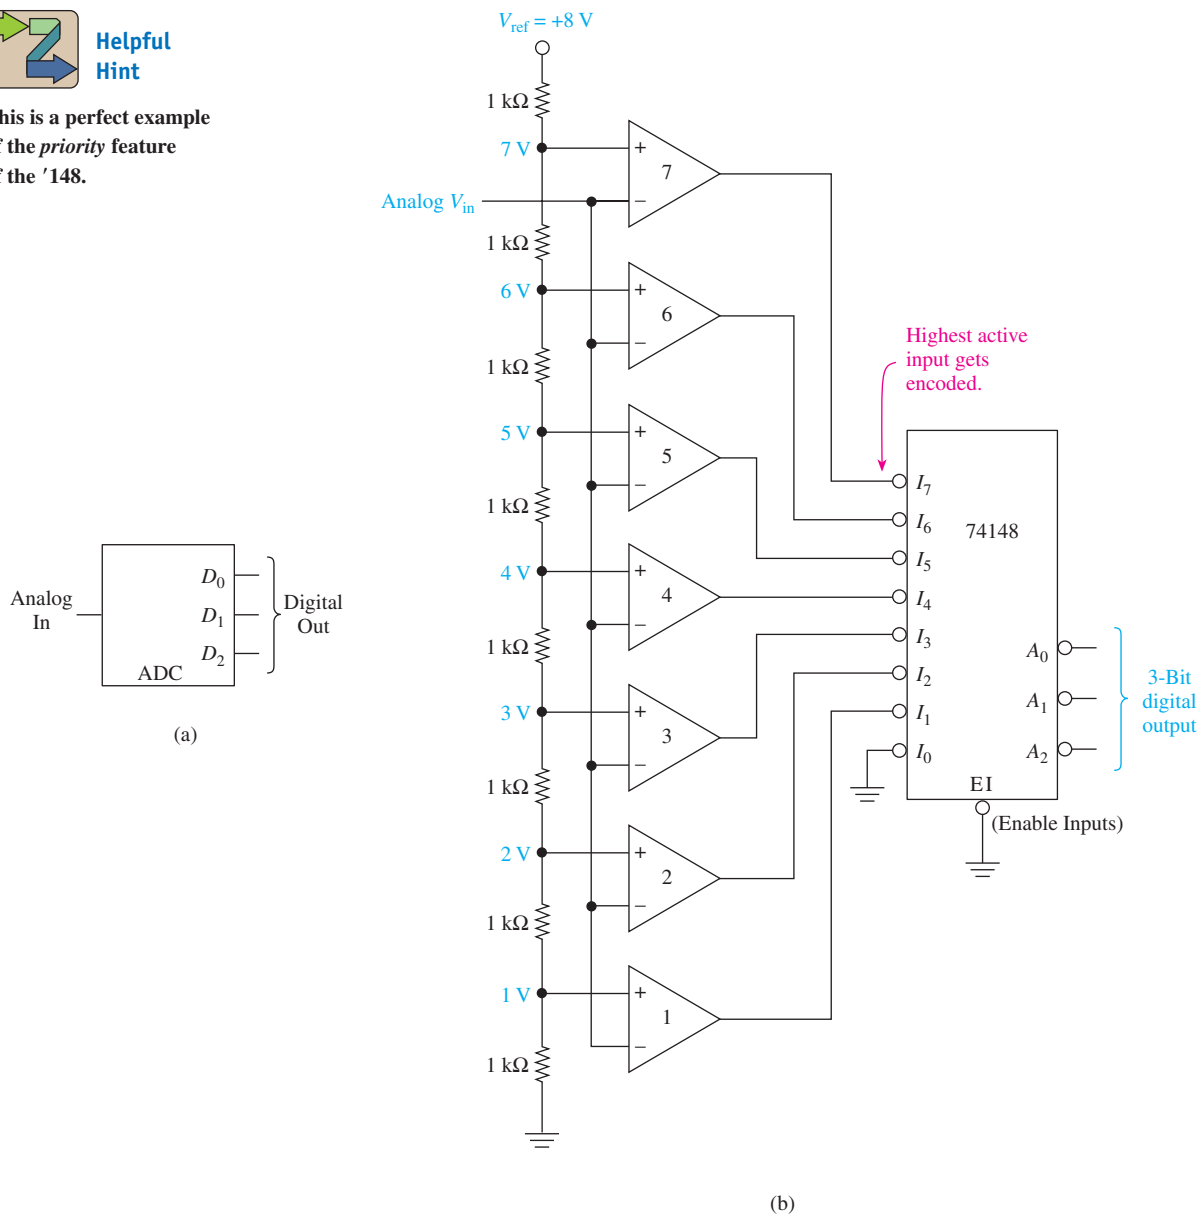

Figure 11 Three-bit parallel-encoded ADC: (a) block diagram and (b) circuit diagram.
The process of taking an analog voltage and converting it to a digital signal can be done in several ways. One simple way that is easy to visualize is by means of parallel encoding (also known as *simultaneous*, *multiple comparator*, or *flash* converting). In this method, several comparators are set up, each at a different voltage reference level with their outputs driving a priority encoder, as shown in Figure 11. The voltage-divider
network in Figure 11 is designed to drop 1 V across each resistor. This sets up a voltage reference at each comparator input in 1-V steps.
The A/D converter in Figure 11 is set up to convert analog voltages in the range from 0 to 7 V. The range can be scaled higher or lower, depending on the input voltage levels that are expected. The resolution of this converter is only 3 bits, so it can only distinguish among eight different analog input levels. To expand to 4-bit resolution, eight more comparators are required to differentiate the 16 different voltage levels. To expand to 8-bit resolution, 256 comparators would be required! As you can see, circuit complexity becomes a real problem when using parallel encoding for high-resolution conversion. However, a big advantage of using parallel encoding is its high speed. The conversion speed is limited only by the propagation delays of the comparators and encoder (less than 20 ns total).
13. In the parallel-encoded ADC of Figure 11, *only one* of the comparators will output a LOW for each analog input value. True or false?